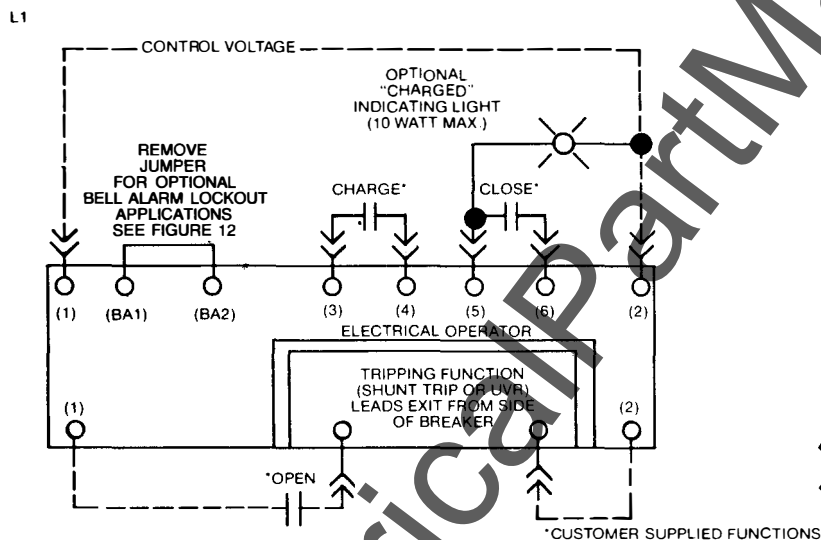

Figure 11.
- a) For bell alarm lockout—Interconnect bell alarm switch to motor operator terminal board as shown in Figure 11.